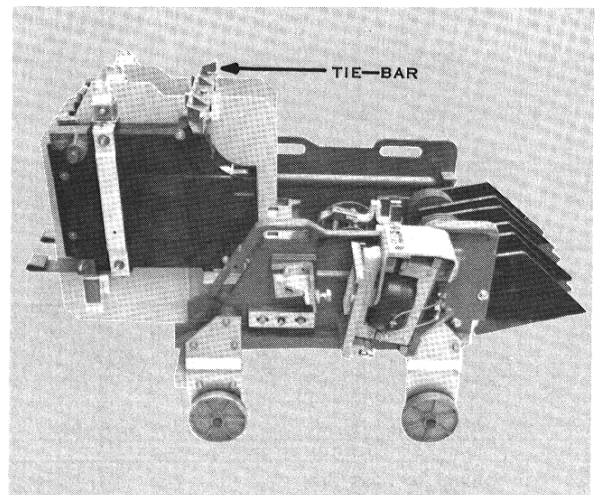

Fig. 26. IC2814E220 contactor with disconnect assembly and pole pieces rotated to the service position
3. Rotate the disconnect assembly to the service position and remove the tie bar (see Fig. 26). Care should be taken to insure that holes in the chute and tie bar that contain roll pins are not damaged.
1. Rotate disconnect assembly to position for one-high contactor as shown in Fig. 26, so that the assembly is supported by the interphase barriers. Place blocks under the blowout base to support it when the side has been removed.